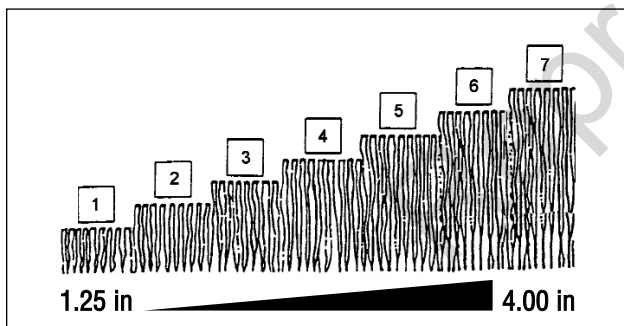

Figure 7: Cutting height settings (approximate)
2. Set all wheels at the same cutting height. The highest cutting position is Notch 7 (Figure 7). The lowest cutting position is Notch 1.